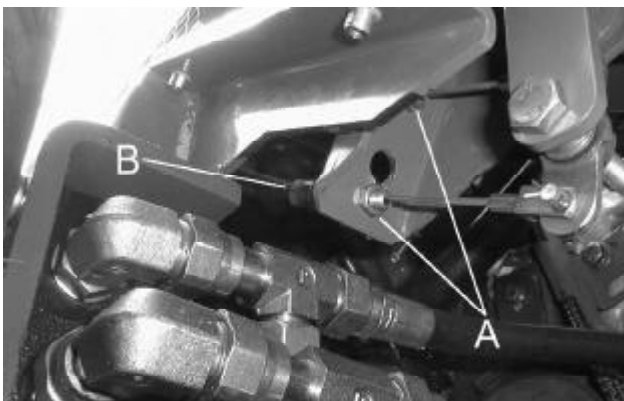

Fig.29
- (a) Slacken screw (A)
- (b) Tighten screw (B) (this increases the drive belt tension.) until a deflection of 8mm can be achieved by applying a force of 5.8kg/57N/ 12.8lbs midway between the pulley centres.
- (c) Retighten the screw (A) after adjustment.
**Parking Brake Adjustment (Fig.29)**
### **Parkeerremafstelling (Afb.29)**